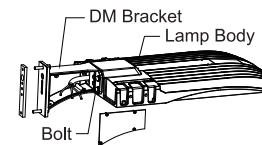

Figure 6
2. Fix the direct bracket to the end of lamp body with bolt. (Figure 6)